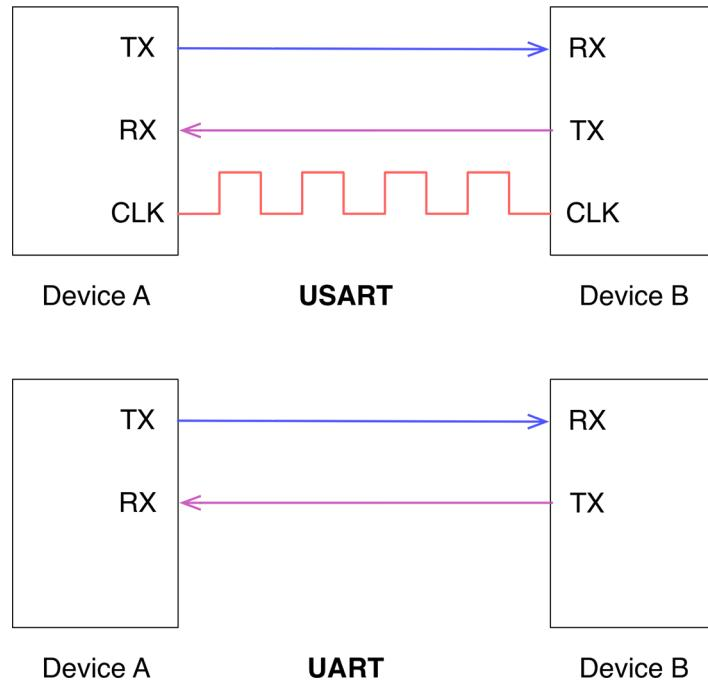

Figure 8.3: The signaling difference between a USART and a UART
A *Universal Synchronous Receiver/Transmitter* (USART) interface is a device capable of transmitting data words serially using two I/Os — one acting as the transmitter (TX) and one as the receiver (RX) — plus an additional I/O as a clock line. In contrast, a *Universal Asynchronous Receiver/Transmitter* (UART) requires only two I/Os, TX and RX (see Figure 8.3). Conventionally, we refer to the first interface as USART and to the second as UART.